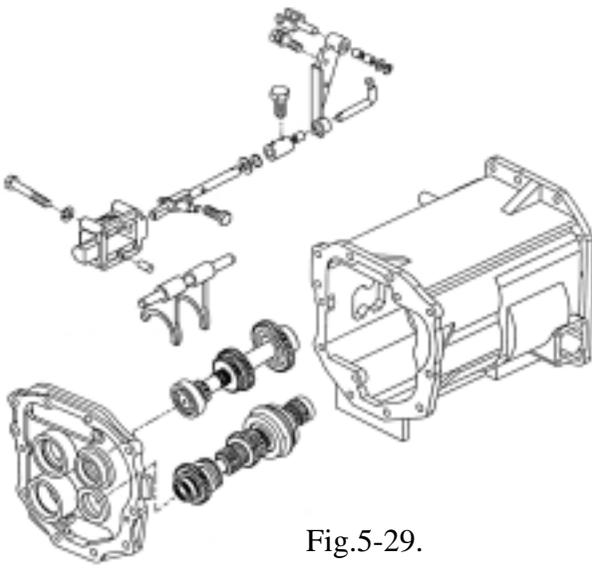

Fig.5-29.
c.Remove the shift stays from the shift metal and remove the gears assemblies as shown Fig.5-29.